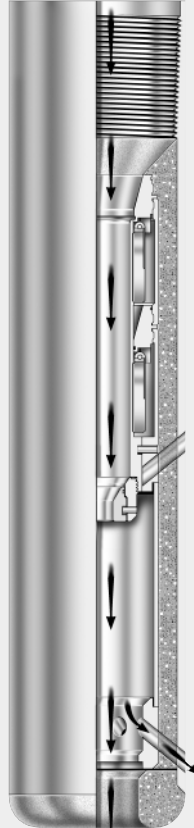

Fig. 2
- The ability to circulate through down jets/center of shoe while running in the hole. This provides a means of washing casing/liner to seat if required. (See Fig. 2).